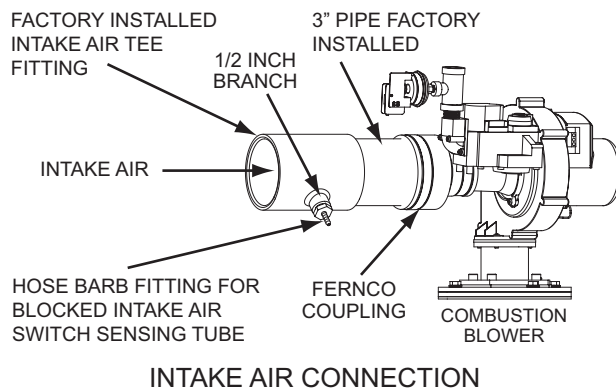

Figure 19
15. If installing 4 inch intake air pipe transition to 3 inch pipe at the intake air connection on the water heater as shown in Figure 19. The field installed 3" pipe between the intake air connection and the 4" x 3" reducer coupling should be 18 inches (45 cm) or less in length.